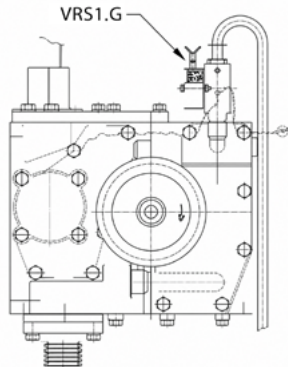

Figure 17 - FP-1001 pump unit with VRS1.G air flow sensor
Mechanical calibration of the meter (1) is performed only on FM-1007 piston-type meters, directly on the meter by turning the calibration wheel A (see Figure 17), which allows for mechanical adjustment of the meter's cycle volume. If the meter is precisely adjusted, one revolution of the meter shaft corresponds exactly to 0.5 L of fuel dispensed and 50 pulses sent to the computer by the pulse generator (pulser) connected to the meter shaft. By turning the calibration wheel clockwise or counterclockwise, the meter's accuracy can be corrected within a range of +/-1.3% in increments corresponding to a variation of 0.04%.